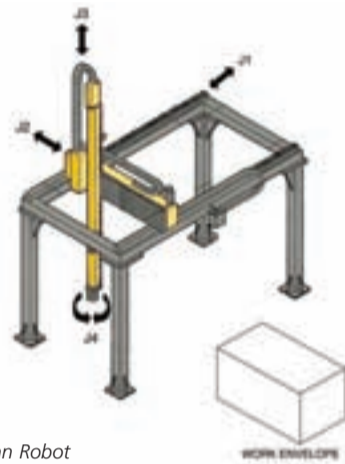

Figure 5. Cartesian Robot
**CARTESIAN ROBOT** (Figure 5) – also commonly known as a Gantry robot, it features only three prismatic joints, often with an attached wrist to enable rotational movements (4 DoF), and can reach any position within its rectangular work envelope, through linear motion of the axes. It is typically suspended from an overhead grid and the installation footprint is often larger than the workspace, but the rigid structure means very heavy payloads can be carried. Typical applications include materials handling, pick & place, machine loading/unloading, stacking and palletising, usually performed with considerable speed and accuracy.